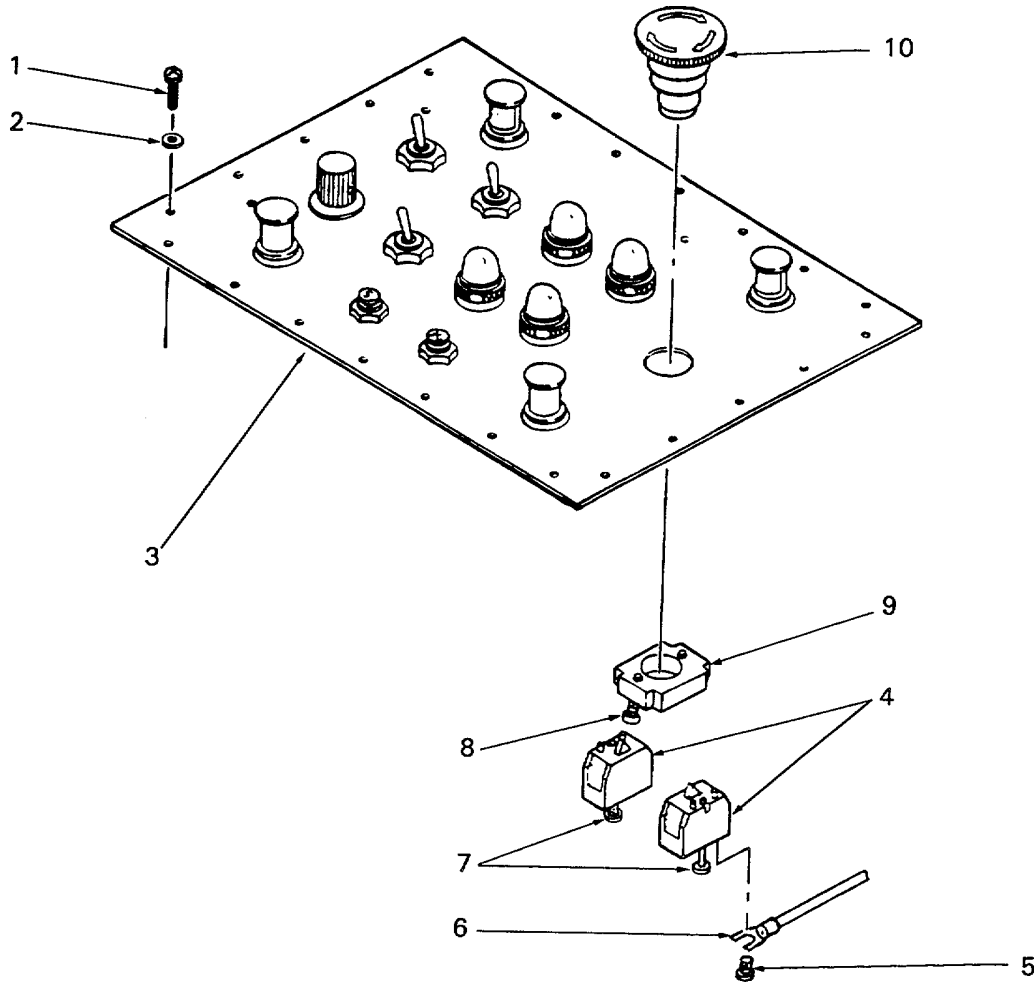

Figure 5-12. Emergency Stop Switch Replacement
5.7.3 Repair Emergency Stop Switch (S4). (Refer to figure 5-12.)